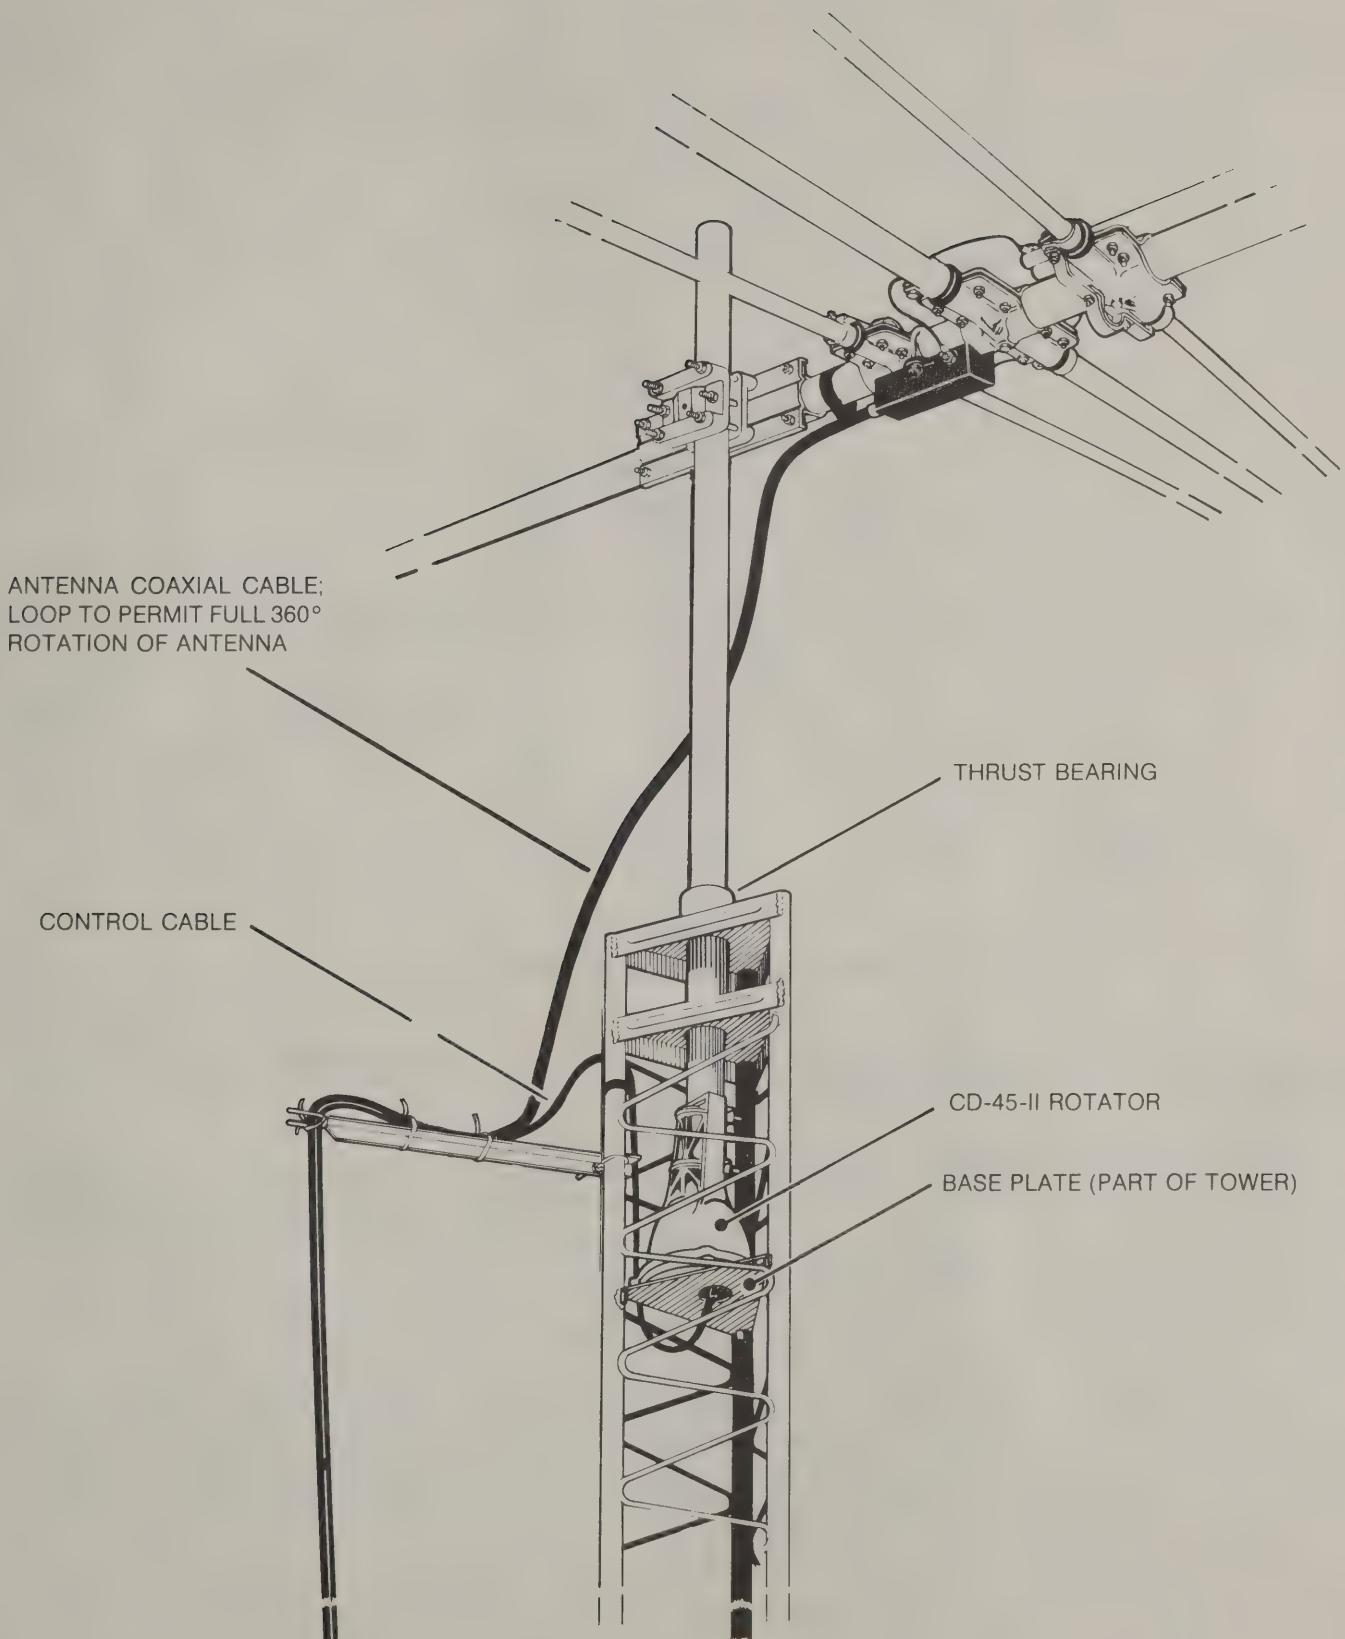

Figure 3
- D. When not mounted within a tower with a thrust bearing as shown in Figure 3, the rotator must be *derated*.
There are three general types of installations (see Figures 3, 5 and 7).
1. The recommended installation is an "Inside" Tower Mount, as shown in Figure 3, with a top bushing or bearing to provide lateral support and resist high wind loads.
There are variations of mounting falling generally into one of the above categories. For example, the rotator may be mounted lower in the tower than shown in Figure 3. In that case, more than one bushing or thrust bearing for the beam mast may be required and longer coast down time allowed in operation. These factors are interrelated and the components must be matched together.
The rotator is mounted inside a tower (see Figure 3) to the flat tower plate by means of four (4) bolts furnished in the hardware kit. Use the following procedure:
7. Tighten the four (4) bolts carefully—to approximately 100 inch-pounds of torque.
8. Return the rotator to the full CW "S" position. Mount the beam pointing South. The coaxial cable should be looped as per Figure 3, in such a manner that it will not foul or tangle when the beam turns around in a circle to the full 360° counterclockwise position. (The antenna rotates "S" "E" [counterclockwise] on the first turn, therefore, slack should wrap counterclockwise around the mast.) Tighten the U-Bolts securely.